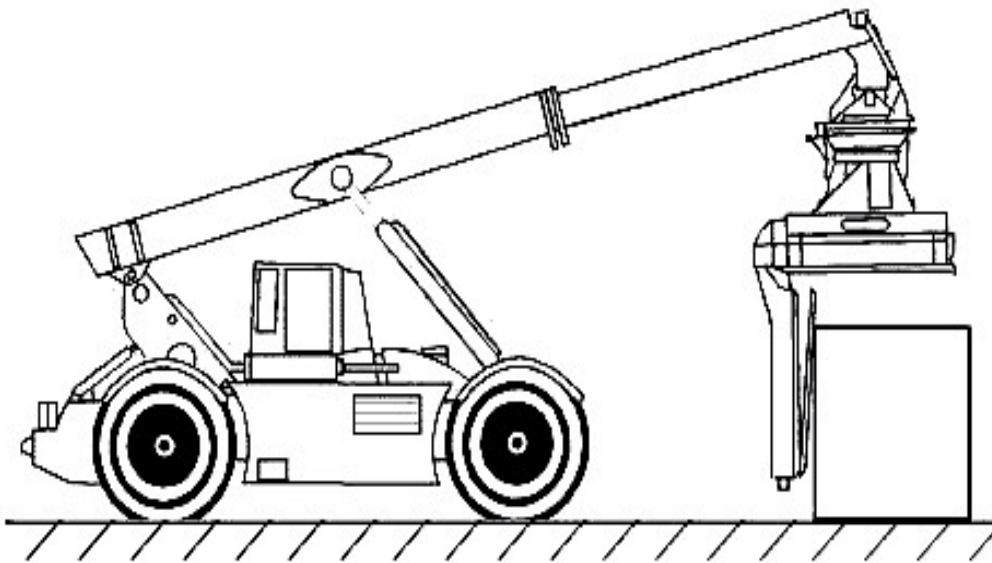

Figure 3-190
9. Retract the boom and position the truck in front of an ISO container or loading dock (see Figure 3-190).